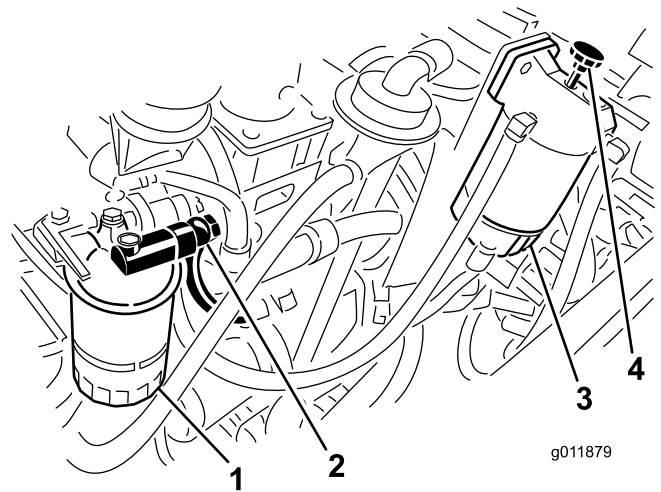

Figure 64
6. Operate the water separator priming pump until a solid stream of fuel is detected at the banjo fitting (Figure 64).
5. Loosen the banjo fitting on the fuel filter housing (Figure 64).